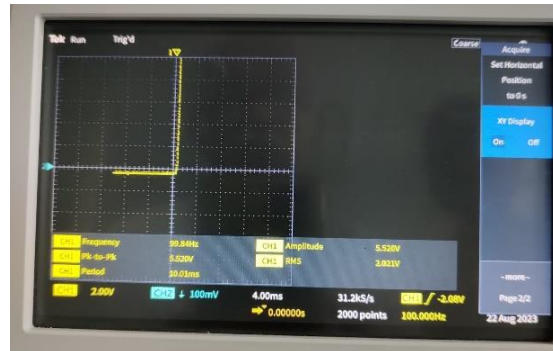
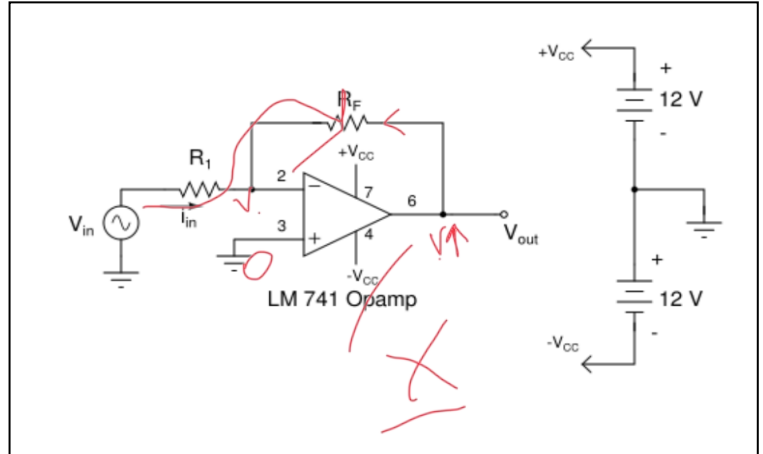

Fig. E2 – XY plot – medium light conditions
Fig. E3 – XY plot – higher light conditions
- Take measurements for two light conditions – medium light and for the maximum light. (See the X-Y plot images shown below (Fig.E2 and Fig.E3) for medium and higher light intensities).